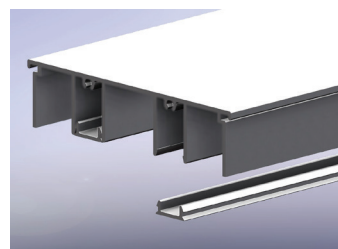

Figure 17
- 14. Next** install the main frame head screw covers and P-hook screw covers. (See Figure 17)